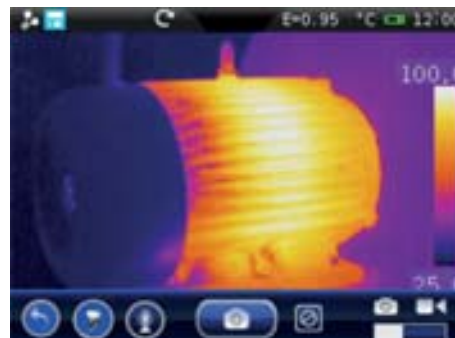

Fig. 62: Stopping a voice annotation
6. Touch the icon “” to stop recording. The following screen appears (see Fig. 62 – Left side):
7. Touch the icon “” to save the voice annotation associated with the image previously saved or the key “” to exit without saving. The instrument shows the screen Fig. 62 – Right side and is ready to save the image again.